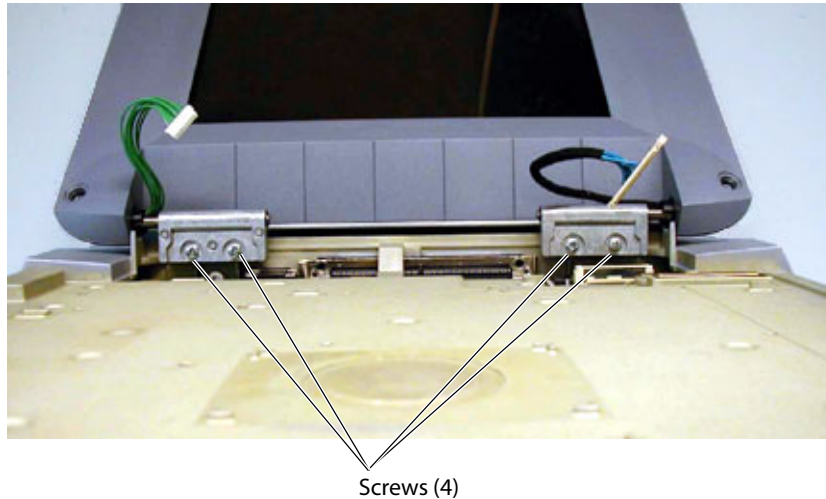

Figure 7.5 Display Screws
- 6 Remove the four screws from the Display Hinges per Figure 7.5.